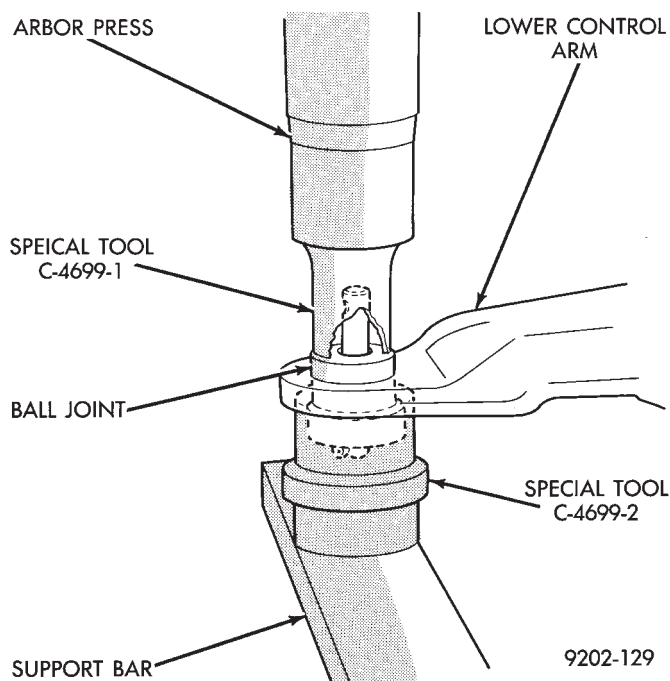

Fig. 2 Removing Ball Joint
- (1) Pry off seal.
- (2) Position Receiving Cup Special Tool C-4699-2 to support lower control arm while receiving ball joint assembly (Fig. 2).
- (3) Install Remover/Installer Special Tool, C-4699-1 (Fig. 2) over ball joint stud and against the ball joint upper housing.
- (4) Press down against the ball joint upper housing, to remove ball joint assembly from lower control arm.